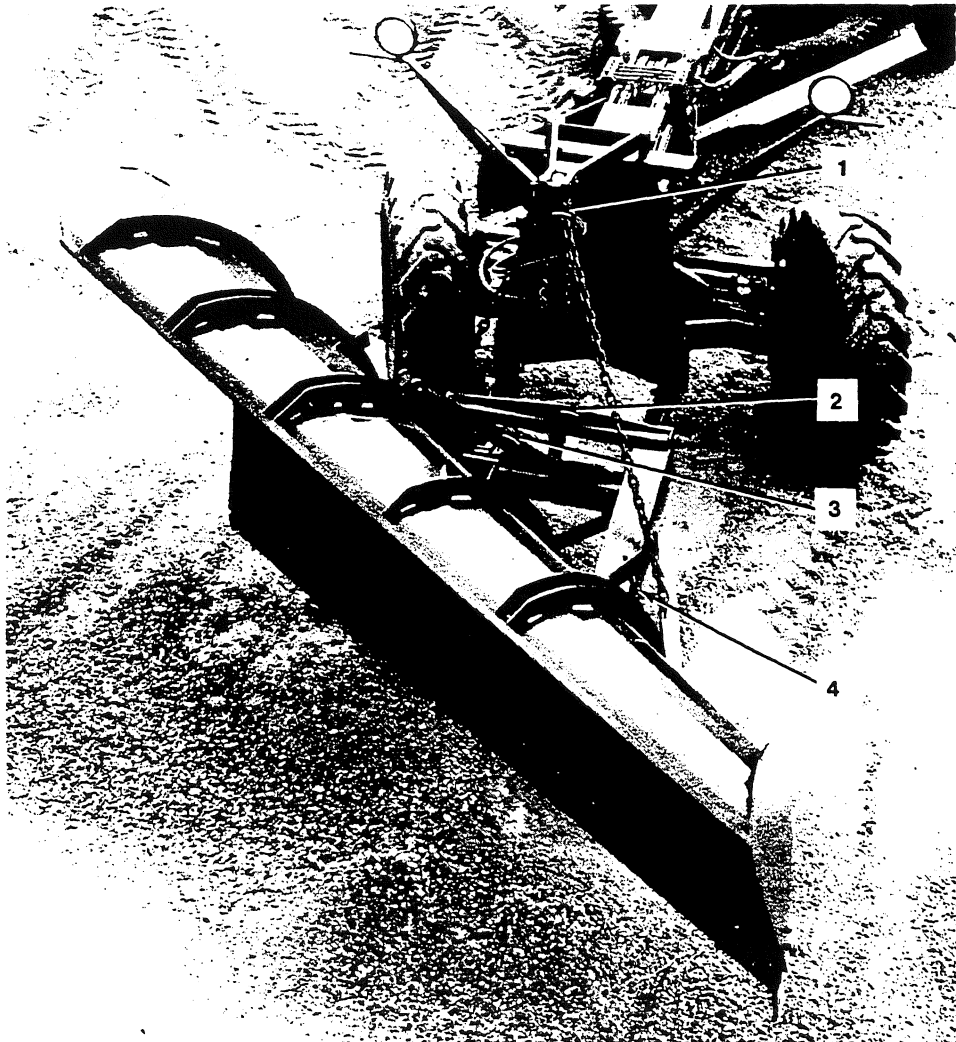

Figure 10
26. Two shoes (22, Fig. 9) are connected to an adjustment screw and swivel assembly by one hexagon head bolt (58, Fig. 9), nut (63, Fig. 9) and lockwasher (61, Fig. 9) per shoe. Adjustment is effected by raising the one-way plow blade off the ground and turning the adjusting screw handle (23, Fig. 9) until the desired height is obtained (4, Fig. 10). Lower the blade.
27. The blade pitch can be varied by removing the shear pin connecting the inner and outer adjusting link, tilting the blade to the desired angle; then installing the shear pin in the alternative hole (3, Fig. 10).
28. If the one-way plow tends to tip to one side or the other when being raised or lowered, remove any slack in the chains by adjusting at the spade slots until a level movement is obtained (1, Fig. 10).
29. To accommodate for differences in tire sizes, position the stabilizer bar to suit these conditions, and install the hardware in the appropriate hole of the vertical adjustment bar (2, Fig. 10).